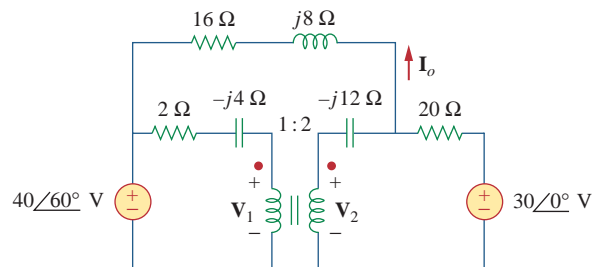

Figure 13.143
13.82 Use PSpice to find V_1 , V_2 , and I_o in the circuit of Fig. 13.143.